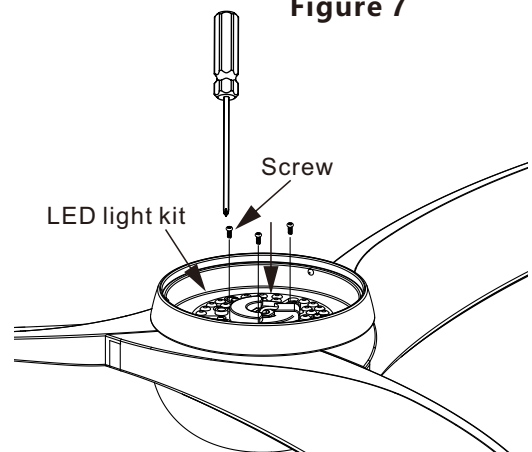

Figure 8
Step 3. Tighten the 3 screws previously removed in step 1 (Fig.8)